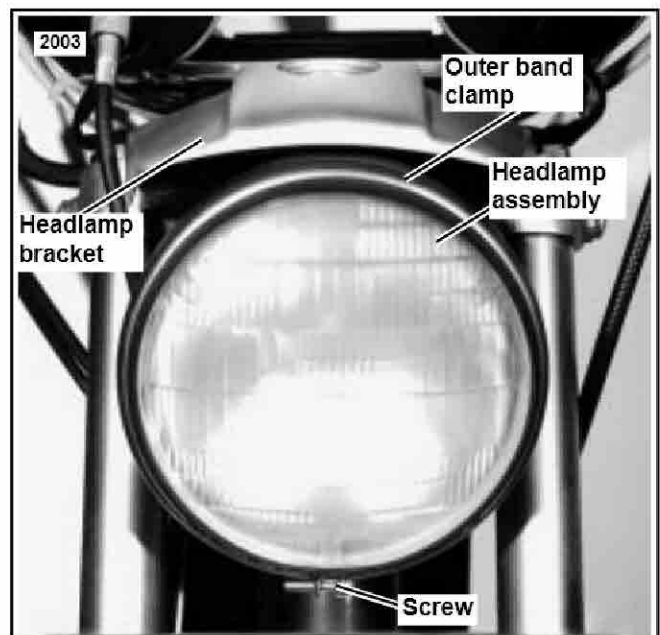

Figure 2. Headlamp Assembly
3. See Figure 2. Remove screw and outer band clamp. Remove screw and inner band clamp. Pull headlamp assembly from rubber molding.